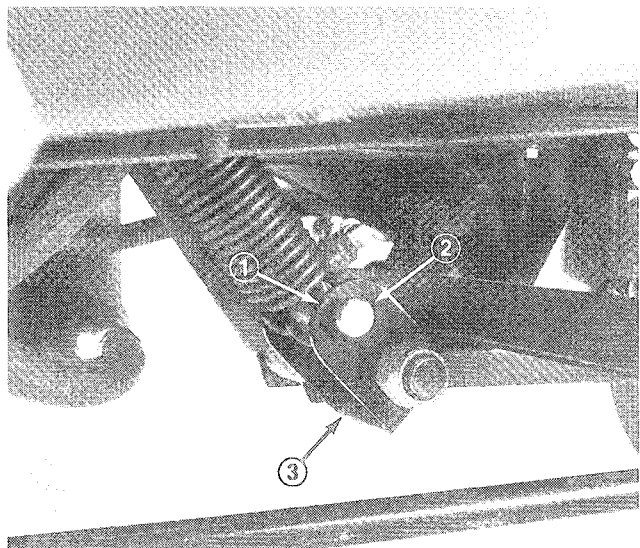

Figure 27
- B. Remove cotter pin and clevis pin securing bottom of springs to lift bracket (Fig. 27).